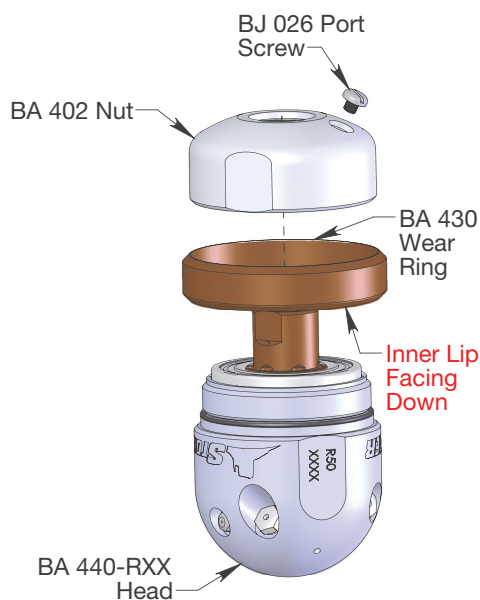

Figure 15: For Steps 14-17
14. Slide Wear Ring (BA 430) over Head with inner lip down (see Figure 15).